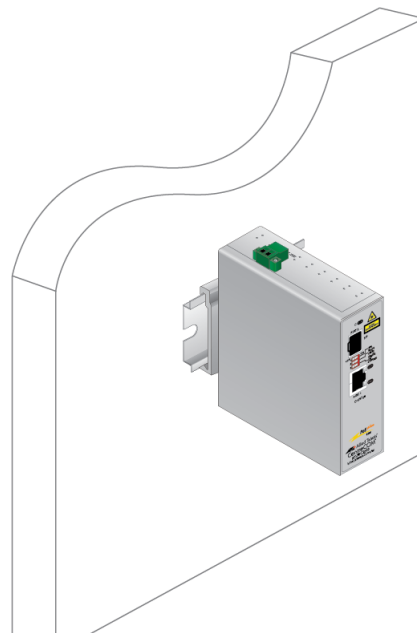

Figure 18. Media Converter on the Wall
7. Ensure that the media converter is installed securely to the wall. See Figure 18.